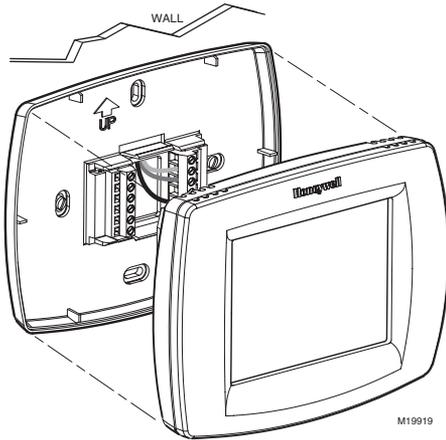

Fig. 18. Mounting thermostat on wallplate.
2. Push the thermostat straight onto the wallplate. See Fig. 18.